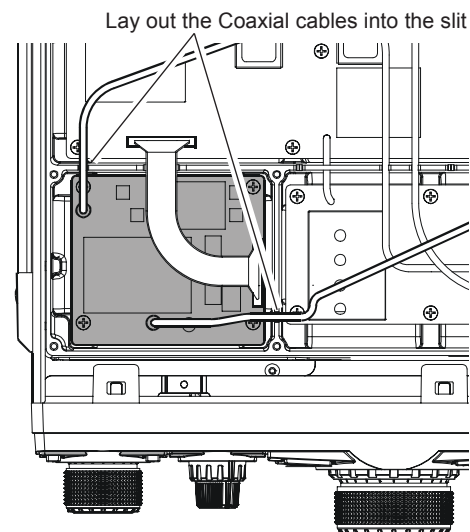

FIGURE 4
7. Referring to Figure 4, lay out the Coaxial cables into the slits of the chassis.